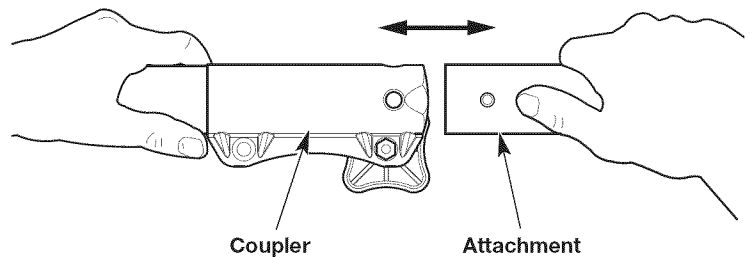
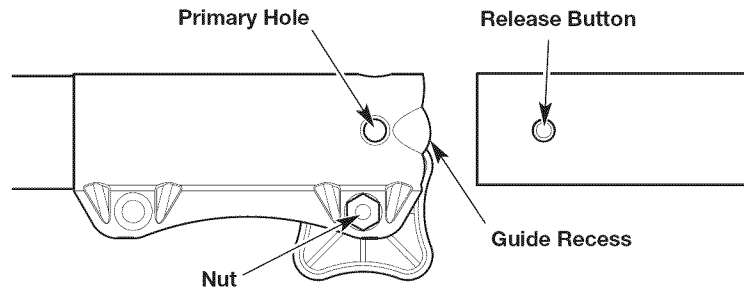

Fig. 3
Fig. 5
4. Align the release button with the guide recess (Fig. 5).
5. Push the attachment straight into the coupler (Fig. 3) until the release button snaps firmly into the primary hole (Fig. 5).
**NOTE:** Do not tighten the nut (Fig. 5).
3. Press and hold the release button (Fig. 5).
4. Pull the attachment straight out of the coupler (Fig. 3).